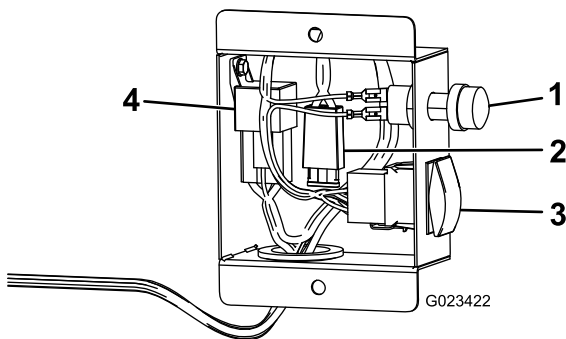

Figure 4
2. Moving down the wire harness, connect the harness to the rate switch, the hose-reel button, and the power relay (Figure 4).